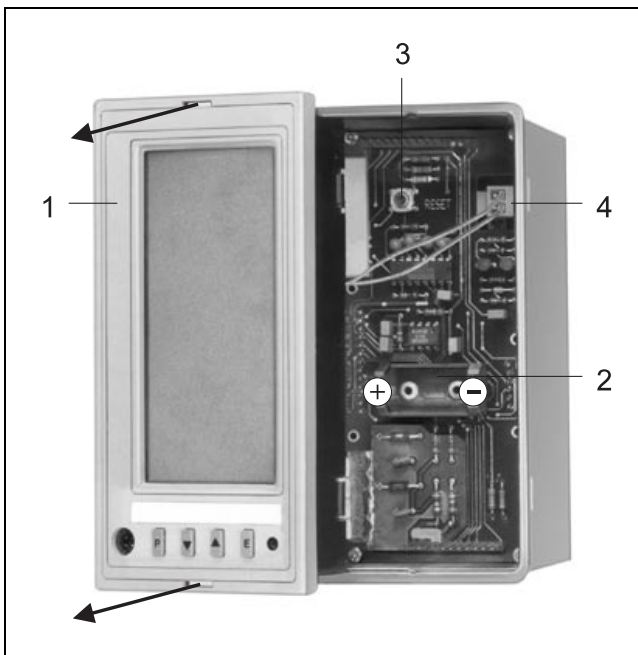

Fig. 17 Display unit removed
(see fig. 17)
5. Replace the new battery in the battery holder (Warning: Do not re-verse polarity (see fig. 17)).
1. Remove the display unit (see fig. 17, page 22).
2. Press the Reset button (3 in fig. 17), with the power supply being switched on.